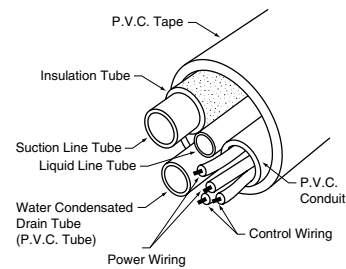

Figure 12
- After completing installation of refrigerant lines, wiring and drain connections, bind the tubing, wiring and drain hose (check if local codes permit binding) into a bundle by using tape at 100 or 200 mm. (4" to 8") intervals. Make sure the drain hose is at the bottom of the bundle (Figure 12).